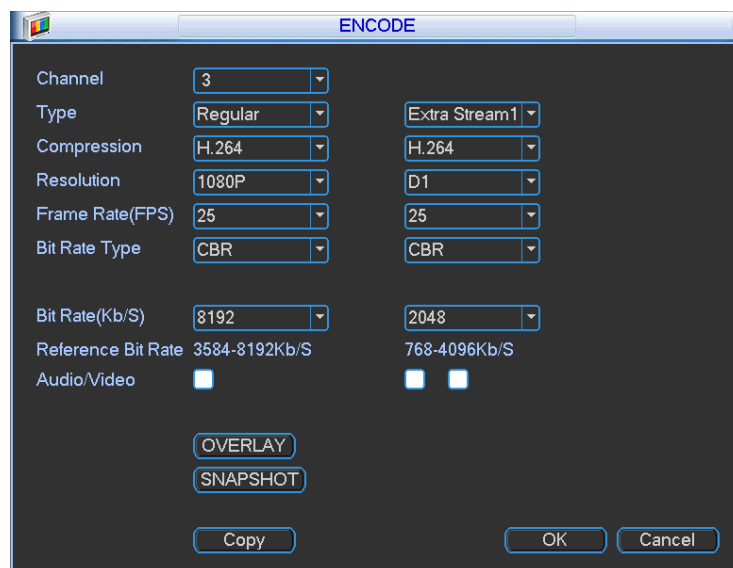

Figure 5-26
Encode setting includes the following items. See Figure 5-26.
- # Copy: After you complete the setup, you can click Copy button to copy current setup to other channel(s). You can see an interface is shown as in Figure 5-28. You can see current channel number is grey. Please check the number to select the channel or you can check the box ALL. Please click the OK button in Figure 5-28 and Figure 5-26 respectively to complete the setup. Please note, once you check the All box, you set same encode setup for all channels. Audio/video enable box, overlay button and the copy button is shield. See Figure 5-29.